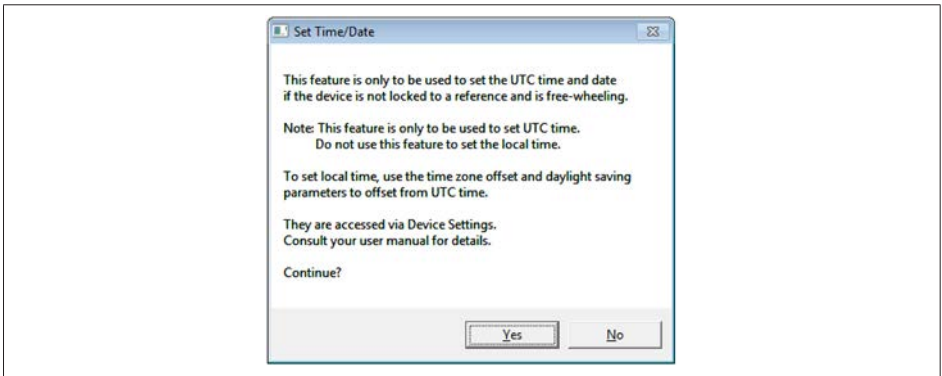

Fig. D.65 Set Time/Date
10. A message will be shown (see Fig. D.65)